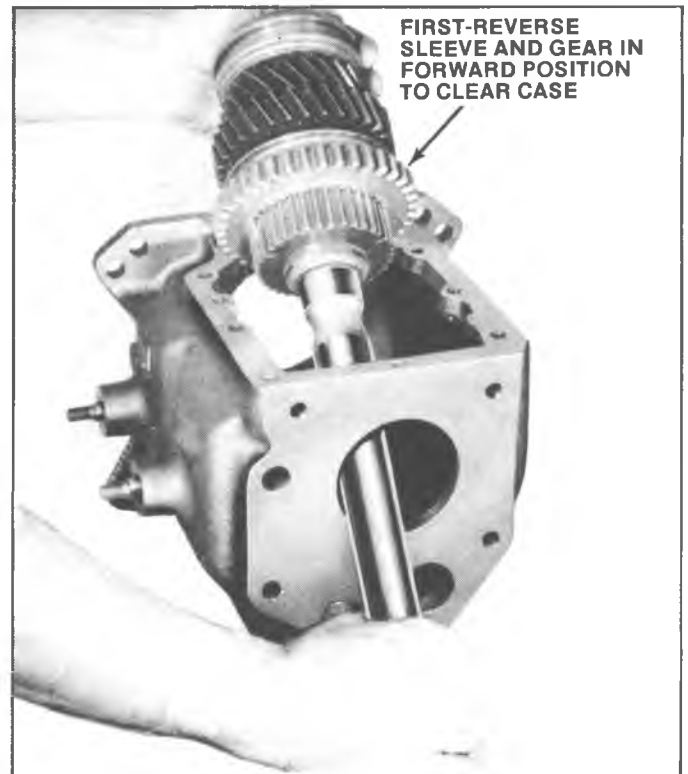

Fig. 10R--Removing Output Shaft Assembly
19. Separate clutch gear from output shaft and remove output shaft assembly (fig. 10R); tilt spline end of shaft downward and lift gear end upward and out of case.